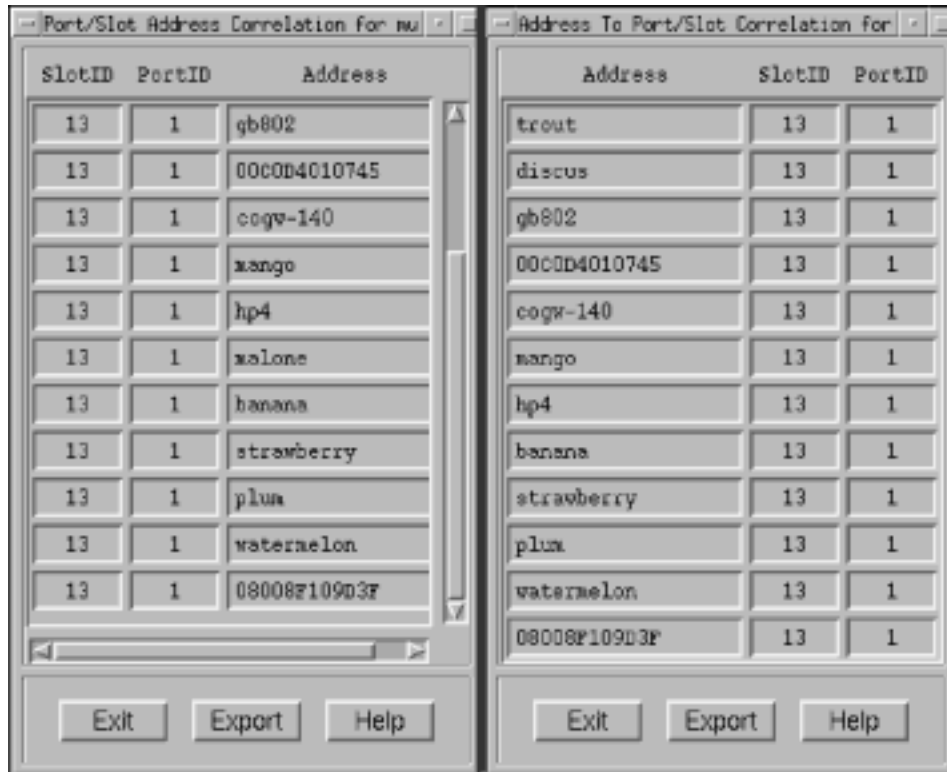

Figure 70. Examples of the Port to Host and Host to Port Tables
4. When the device has been reset and monitoring has been resumed in the main window, select either the Port Host Table or Host Port Table from the PACMIB menu. Figure 70 on page 165 shows examples of the Port to Host and Host to Port Tables.